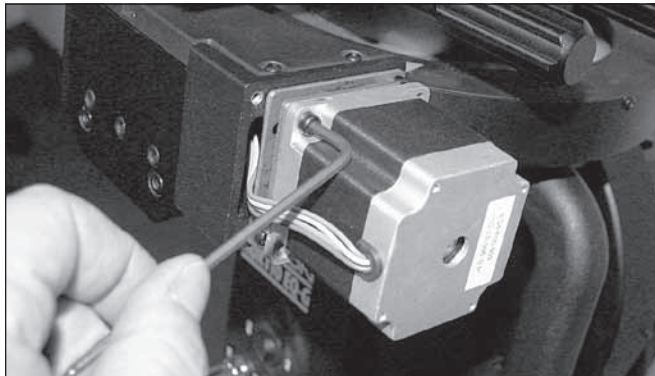

Figure 24: Loosen by a quarter turn the two diagonally opposed screws that fasten the motor to the seat plate.
6. Now with a 3mm Allen key loosen by a quarter turn only the two screws that connect the DEC motor to the seat plate as shown in **Figure 24**. These two screws are